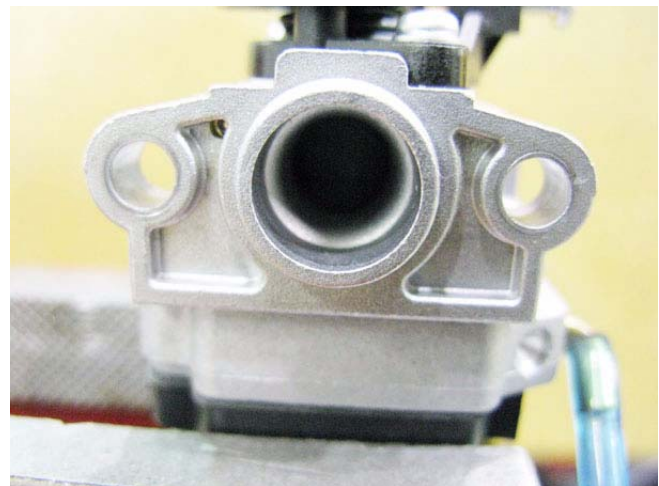

Figure 5.9
1. In the first frame, the throttle is fully closed (idling or stopped). See Figure 5.9.